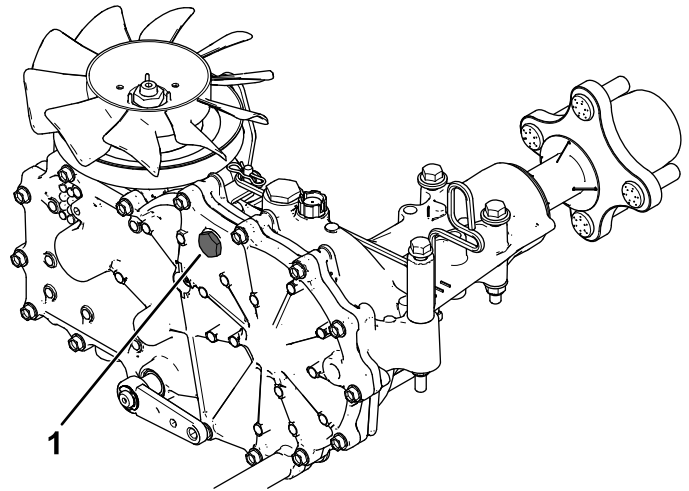
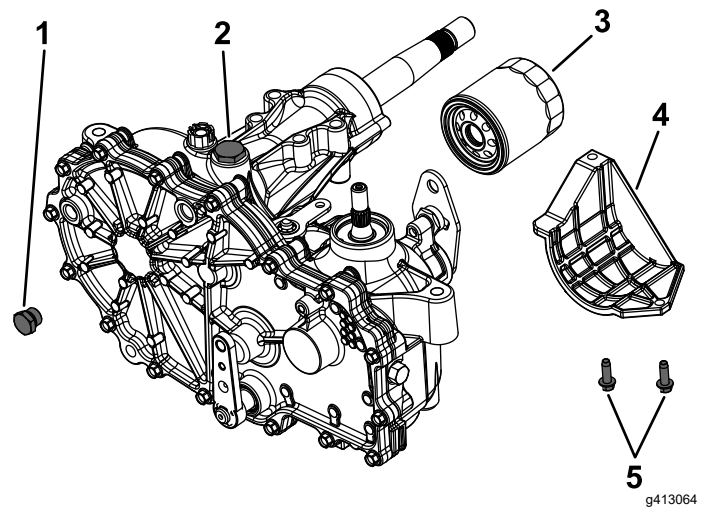

Figure 90
Figure 91
2. Remove the transaxle top port plug from each side and ensure that fluid appears at the bottom of each transaxle top port (Figure 90).
If necessary, add Toro® HYPR-OIL™ 500 hydraulic fluid through the fill port until the fluid appears at the bottom of each transaxle top port (Figure 90 and Figure 91).
4. Locate the filter and guards on each transaxle-drive system (Figure 91).
5. Remove the 3 screws securing the filter guard and guard (Figure 91).
7. Remove the top port plug (Figure 91) from the left side and right side transaxles prior to filling with oil.
9. Install the top port plug into each transaxle as the oil level reaches this port (Figure 91).